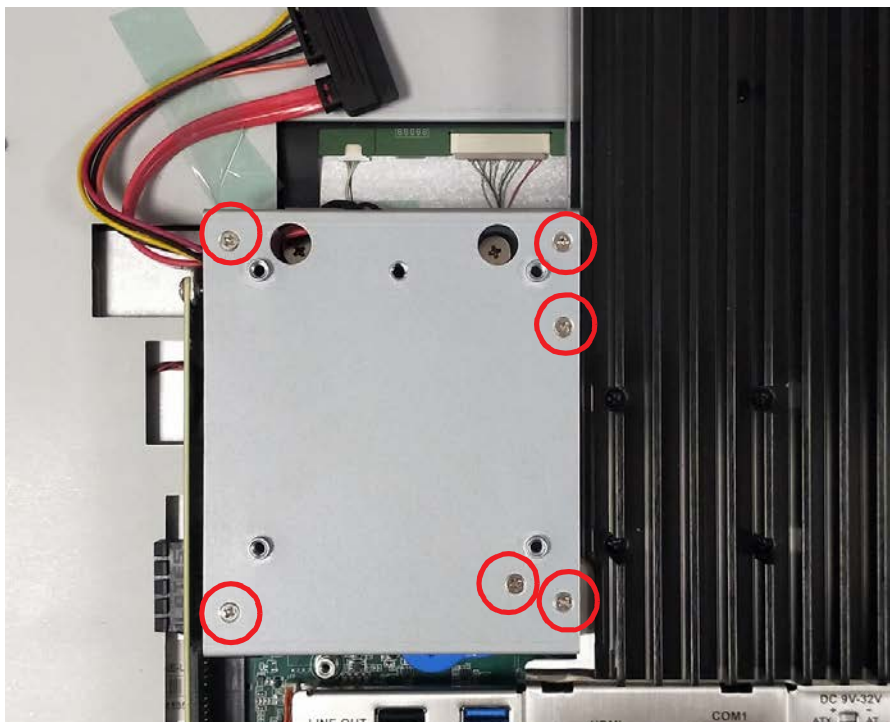

Figure 2.9
2. Remove the six screws (circled in red) to remove the VESA mount plate (see Fig. 2.9).